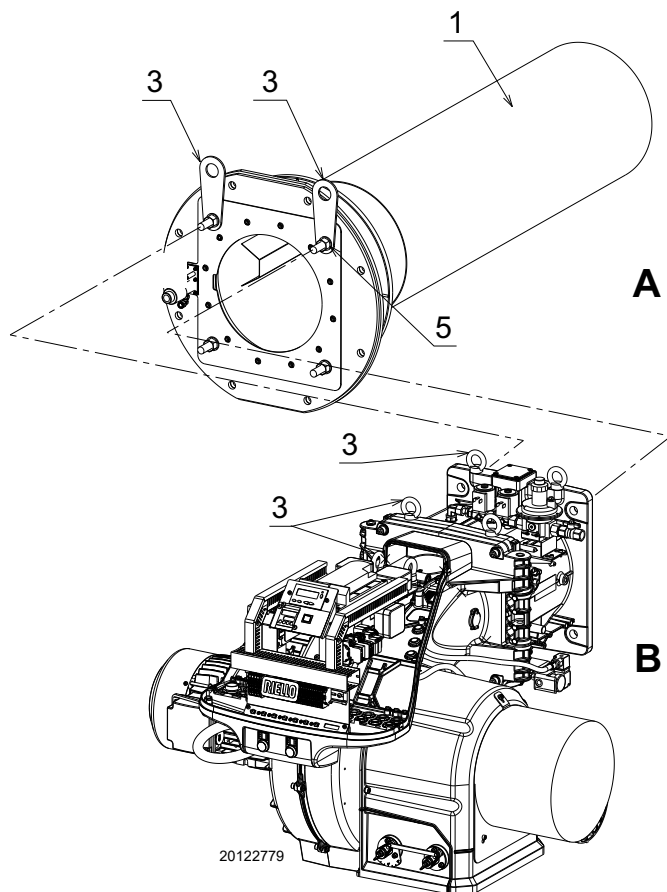
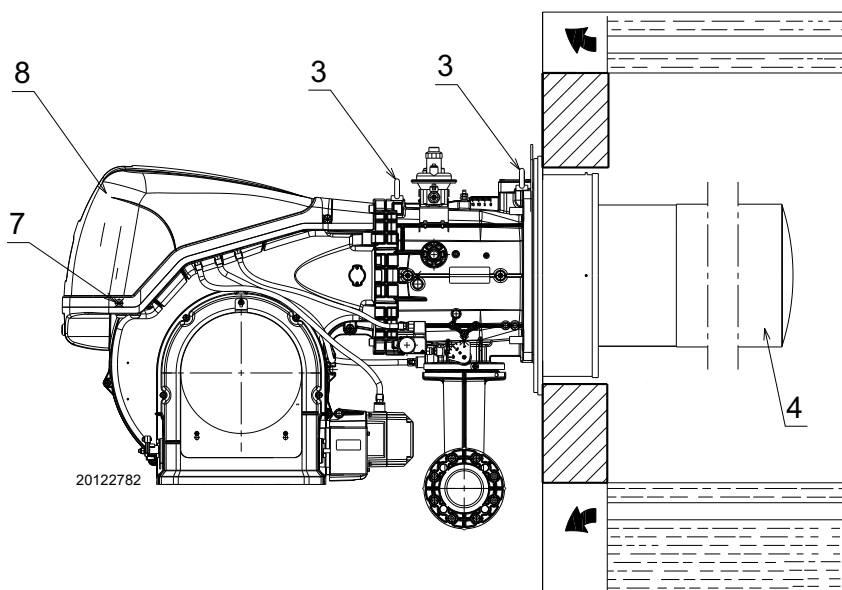

Fig. 18
Fig. 19
Prepare a suitable lifting system using the rings 3)(Fig. 18), after removing the fixing screws 7) of the casing 8).
- Prepare a suitable lifting system using the rings 3)(Fig. 18) of the head assembly.
- Insert the head assembly on the previously prepared boiler hole (Fig. 18) and fix with the M18 screws.
- Lift the burner by means of the rings 3)(Fig. 18) after having removed the cover 8) fixing screws 7)(Fig. 19).
- Fix the burner onto the head assembly with the supplied screws 5)(Fig. 18).